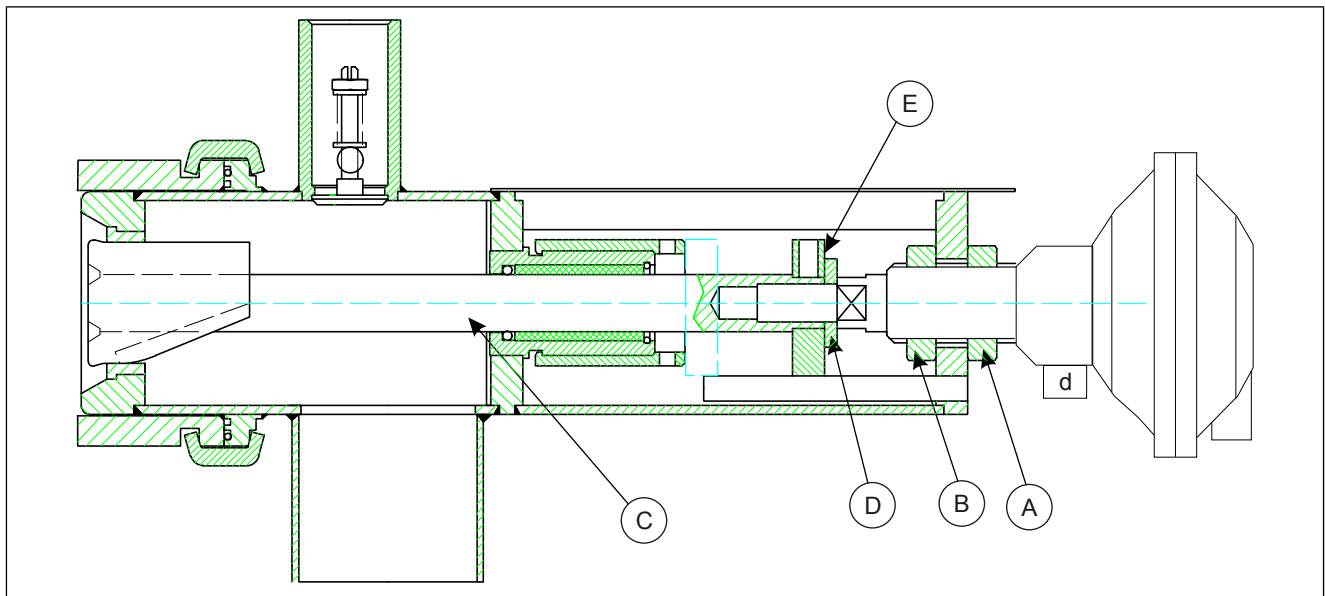

Fig. 17. Valmet SD502 sampler body: A & B - fastening nuts, C - piston shaft, D - support ring, E - piston rotation guard.
1. Detach the actuator by opening the mounting nuts (Fig. 17, parts A & B). Unscrew the piston shaft (C) from the actuator using two wrenches (spanner gaps: a = 13mm, b = 16mm). If the parts sit very tight, heat the joint to about 120 °C (248 °F) to soften the locking glue applied to the thread.
3. Make sure that the support ring (D) is wound as far as it goes.
5. Push the closing piston into position, and also place the rotation guard (E) on the shaft. Tighten the screw connection with two wrenches, spanner gaps a = 13 mm, b = 16 mm.
2. Connect instrument air (pressure about 6 bar, 87 psi) to the actuator (Fig. 17, coupling d).